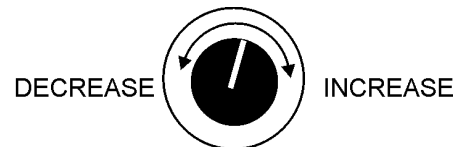

Figure 46. Voltage Adjust Control Knob
8. If the voltage is not within the specified tolerance use the voltage adjustment control knob (Figure 46) to increase or decrease the desired voltage.